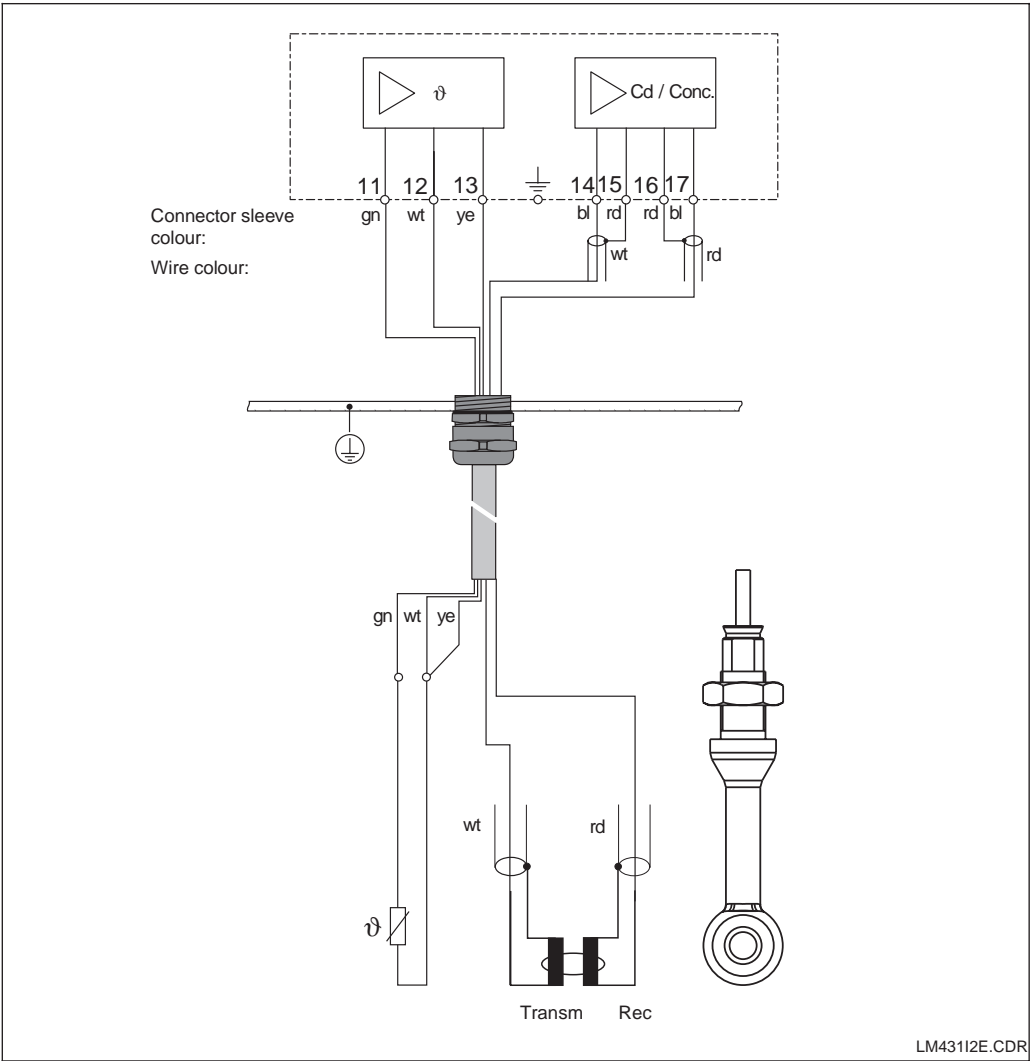

Fig. 3.15 Connection of measuring cell CLS 50 with permanently attached cable
<p>③ Connect the instrument cable end according to the terminal assignment diagram in fig. 3.15.</p> 	<p>④ Replace the connection hood and tighten the fastening screws.</p>